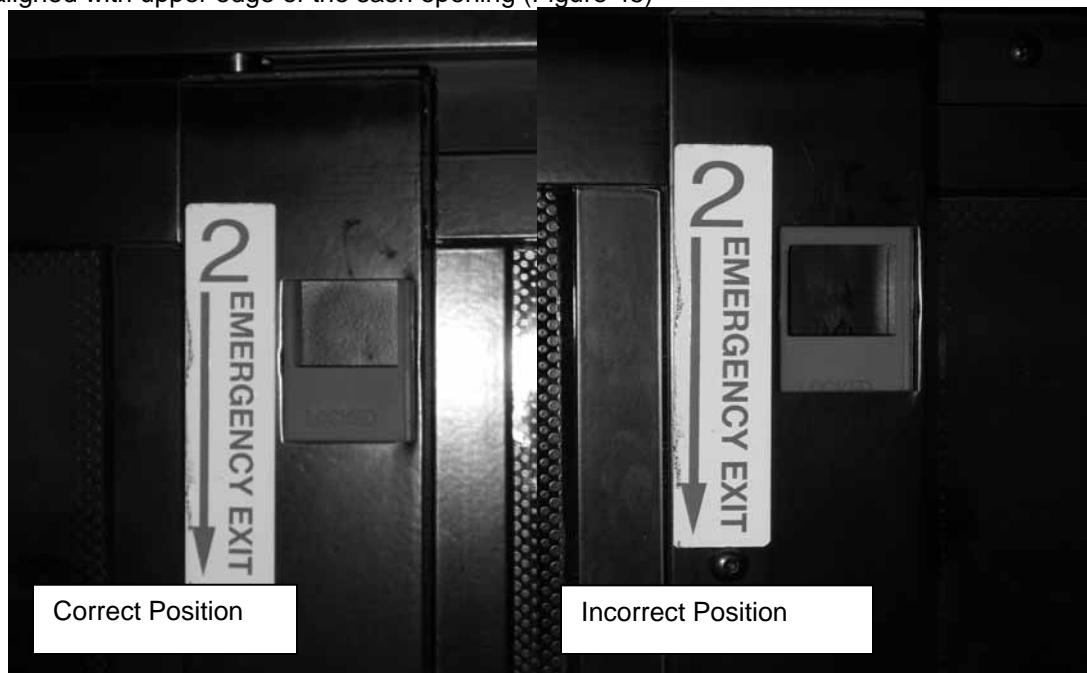

FIGURE 45: RELEASE LATCH PROPER POSITION
6. Confirm that both latches are in the closed (latched) position. The upper edge of the latch opening must be aligned with upper edge of the sash opening (Figure 45)
Unless otherwise noted, body panels and doors should be aligned and centered with surrounding panels. In general, a gap of ¼ inch (6 mm) is desirable between panels. Refer to figure 45 for specified gaps.